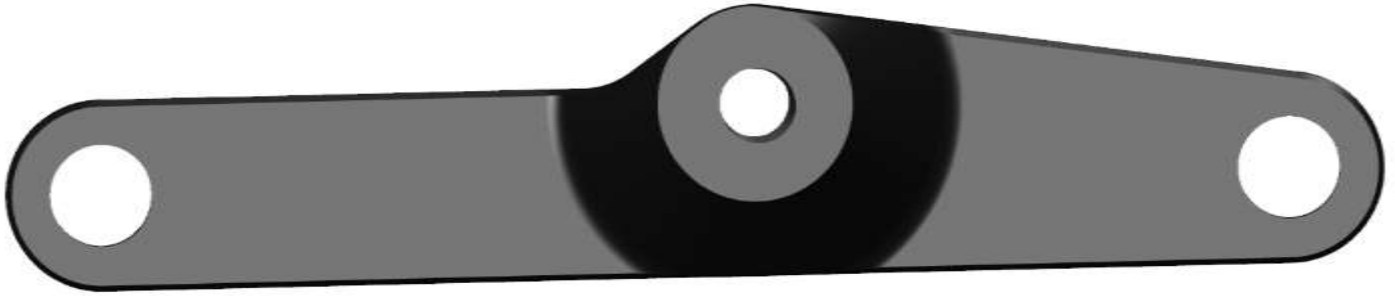

Figure 42
7. Locate the Single Idler Bracket (#60) and the (2) two remaining bolts removed in Step 6. Secure the Bracket to the engine with the (2) two bolts as shown below. The left side of the bracket will be BEHIND the other bracket, sandwiched between the bracket and the engine. Torque the left bolt to **42-48 ft-lbs**, and the right bolt to **51-58 ft-lbs**. *Figure 42.*